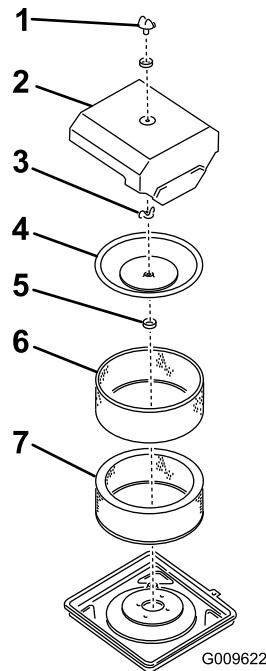

Figure 38
1. Remove the knob, O-ring, and cover (Figure 38).